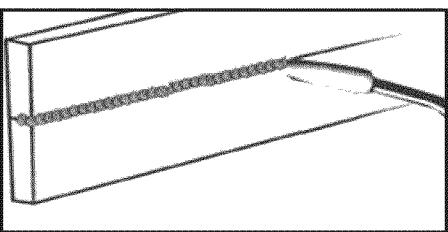

Fig. 13b
- HORIZONTAL POSITION is performed very much the same as the flat weld except that angle B (see HOLDING THE TORCH) is such that the wire is directed more toward the metal above the weld joint. This helps prevent the weld puddle from running downward while still allowing slow enough travel speed. A good starting point for angle B is about 30 degrees DOWN from being perpendicular to the work piece. (Fig. 13b)